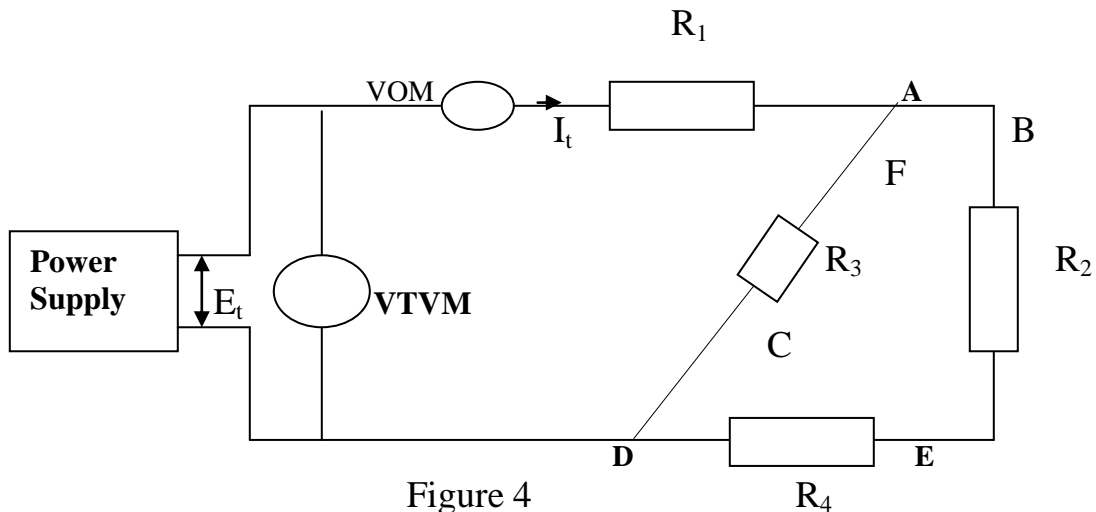

Figure 4
3.6 Change the circuit to the one in Fig.4 (VOM changes place)